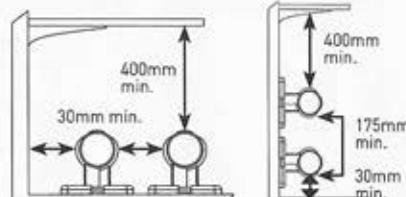

Fig.8
- Minimum clearances as shown in [FIG.8] must be observed when the heater is in use.